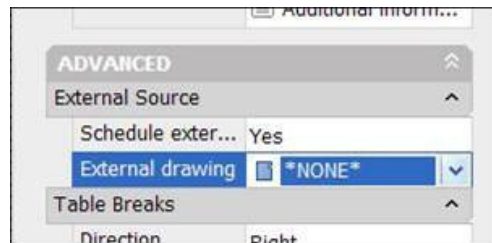

Figure 27. Configuring a Schedule Table to read an external drawing.
When working with a project in which you are taking advantage of AutoCAD Architecture and AutoCAD MEP's drawing and project management capabilities, you will also be working in an environment that utilizes external references extensively. It is important to remember that objects in the schedule do not have to exist in the same drawing as the schedule. Schedules will read objects that are nested in external references; in fact, you can create a schedule that tracks objects in a drawing that is not even referenced into the schedule drawing. When you place the schedule in a sheet (drawing), rather than select objects as we did in the previous exercises, simply press <ENTER> and place the empty schedule in your drawing. Next, select the schedule and in the properties screen, set the value for "Schedule External Drawing" to "Yes", then browse and select the drawing to schedule (see Figure 27).
- c. In the dialog box, provide a name for your new tag. Each text object that you selected will be shown in the column on the left. For each text object, indicate in the next column to the right whether it will be a text element (not linked to a property) or a Property label. In the next column to the right, indicate which property set each property label will link to, and finally in the far right column indicate which specific properties each label will reflect. Figure 27 shows an example.